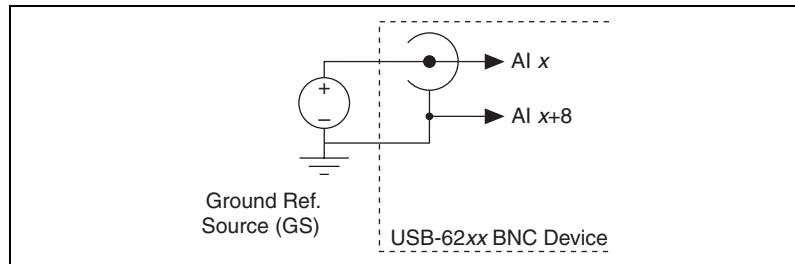

Figure A-8. Single-Ended Channels
- **Single-Ended Mode**—For each BNC connector that you use for two single-ended channels, set the source type switch to the GS position. This setting disconnects the built-in ground reference resistor from the negative terminal of the BNC connector, allowing the connector to be used as a single-ended channel, as shown in Figure A-8.